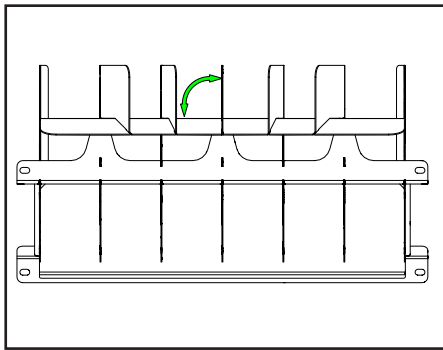

Figure 1
1. Figure 1 - Make sure center fin is square to rear panel. Adjust as necessary.